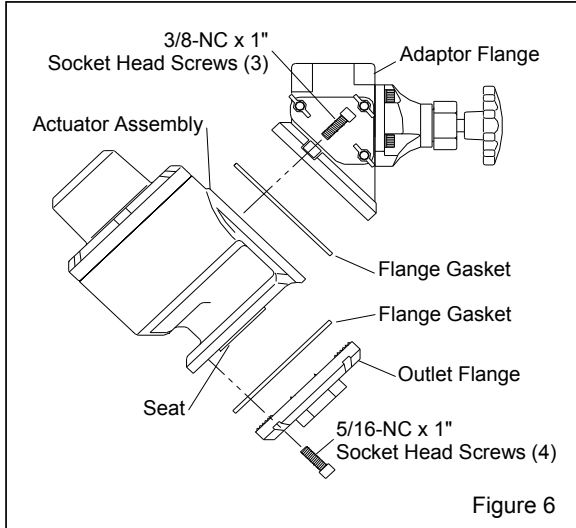

Figure 6
4.2.3 Refer to Figure 6 and remove the screws securing the adaptor flange and the outlet flange to the actuator assembly, and then remove the actuator assembly.